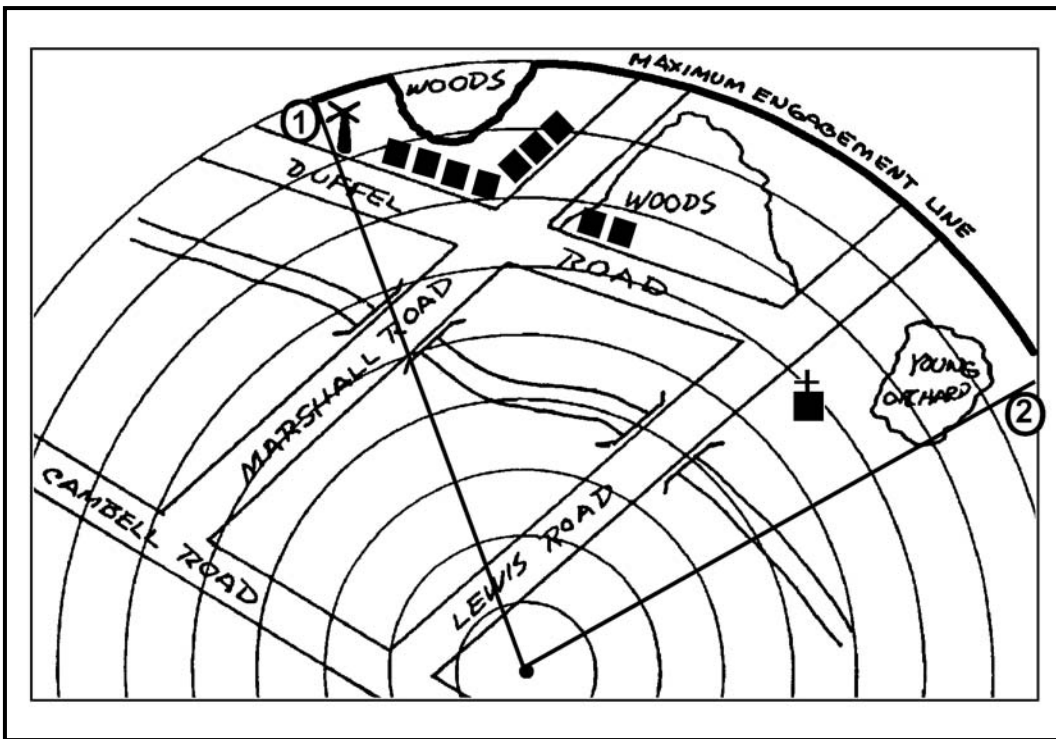

Figure D-4. Placement of maximum engagement line.
c. If there are no limitations, the maximum engagement line is curved and joins the left and right sector of fire boundaries at the maximum engagement range (Figure D-4, page D-4). If there are limitations, the maximum engagement line is drawn in front of the limiting terrain feature.